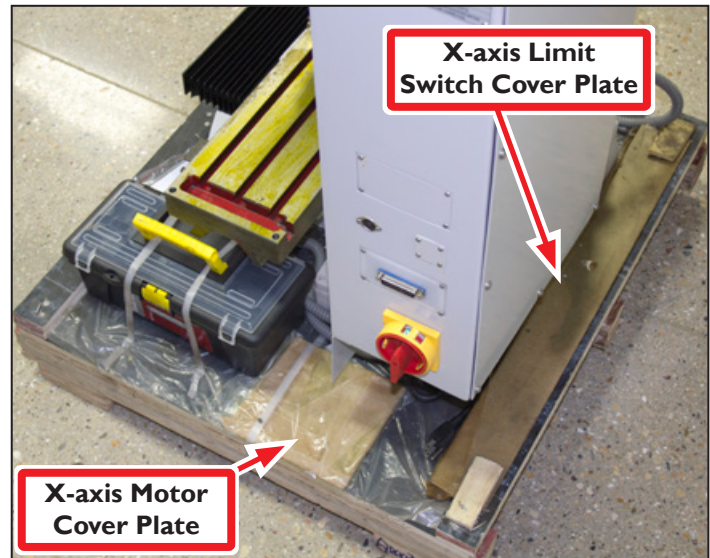

Figure 3.3
2. Remove X-axis Motor Cover Plate and stainless steel X-axis Limit Switch Cover Plate (see **Figure 3.3**); set aside for installation later.